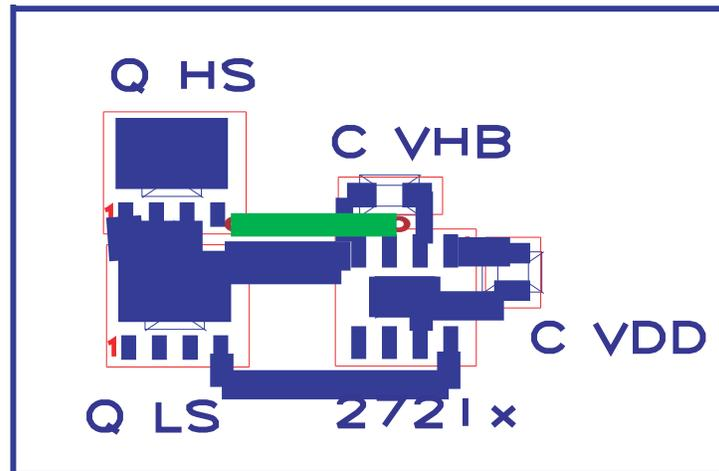

Figure 7-7. UCC27211 Component Placement
- Locate the  $V_{DD}$ - $V_{SS}$  and  $V_{HB}$ - $V_{HS}$  (bootstrap) capacitors as close as possible to the device (see Figure 7-7).
- Pay close attention to the GND trace. Use the thermal pad of the DDA and DRM package as GND by connecting it to the VSS pin (GND). The GND trace from the driver goes directly to the source of the MOSFET but should not be in the high current path of the MOSFET(S) drain or source current.